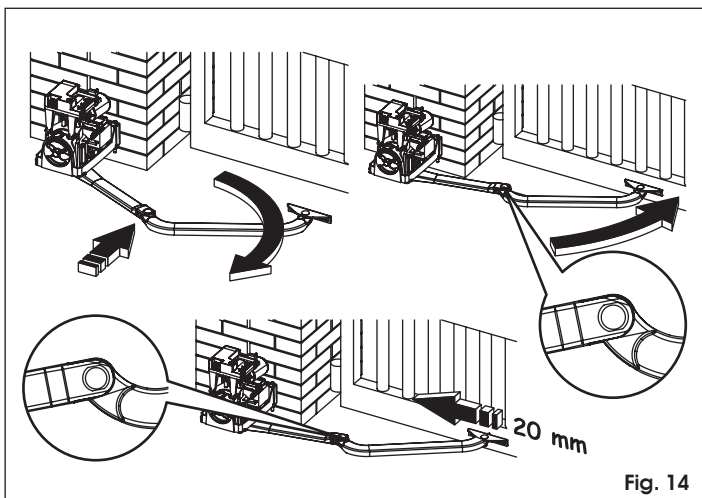

Fig. 14
8. Align the arms you have just assembled, pushing in the central zone until they stop, see Fig. 14 ref. ①.
9. Rest the front bracket on the leaf, Fig. 14 ref. ②.
10. Move back the front bracket by about 20 mm and mark the securing holes, Fig. 14 ref. ③.
12. Move the bracket by hand and - with the leaf in closing position - make sure that the two arms do not impact each other, as shown in Fig. 14 ref. ②.